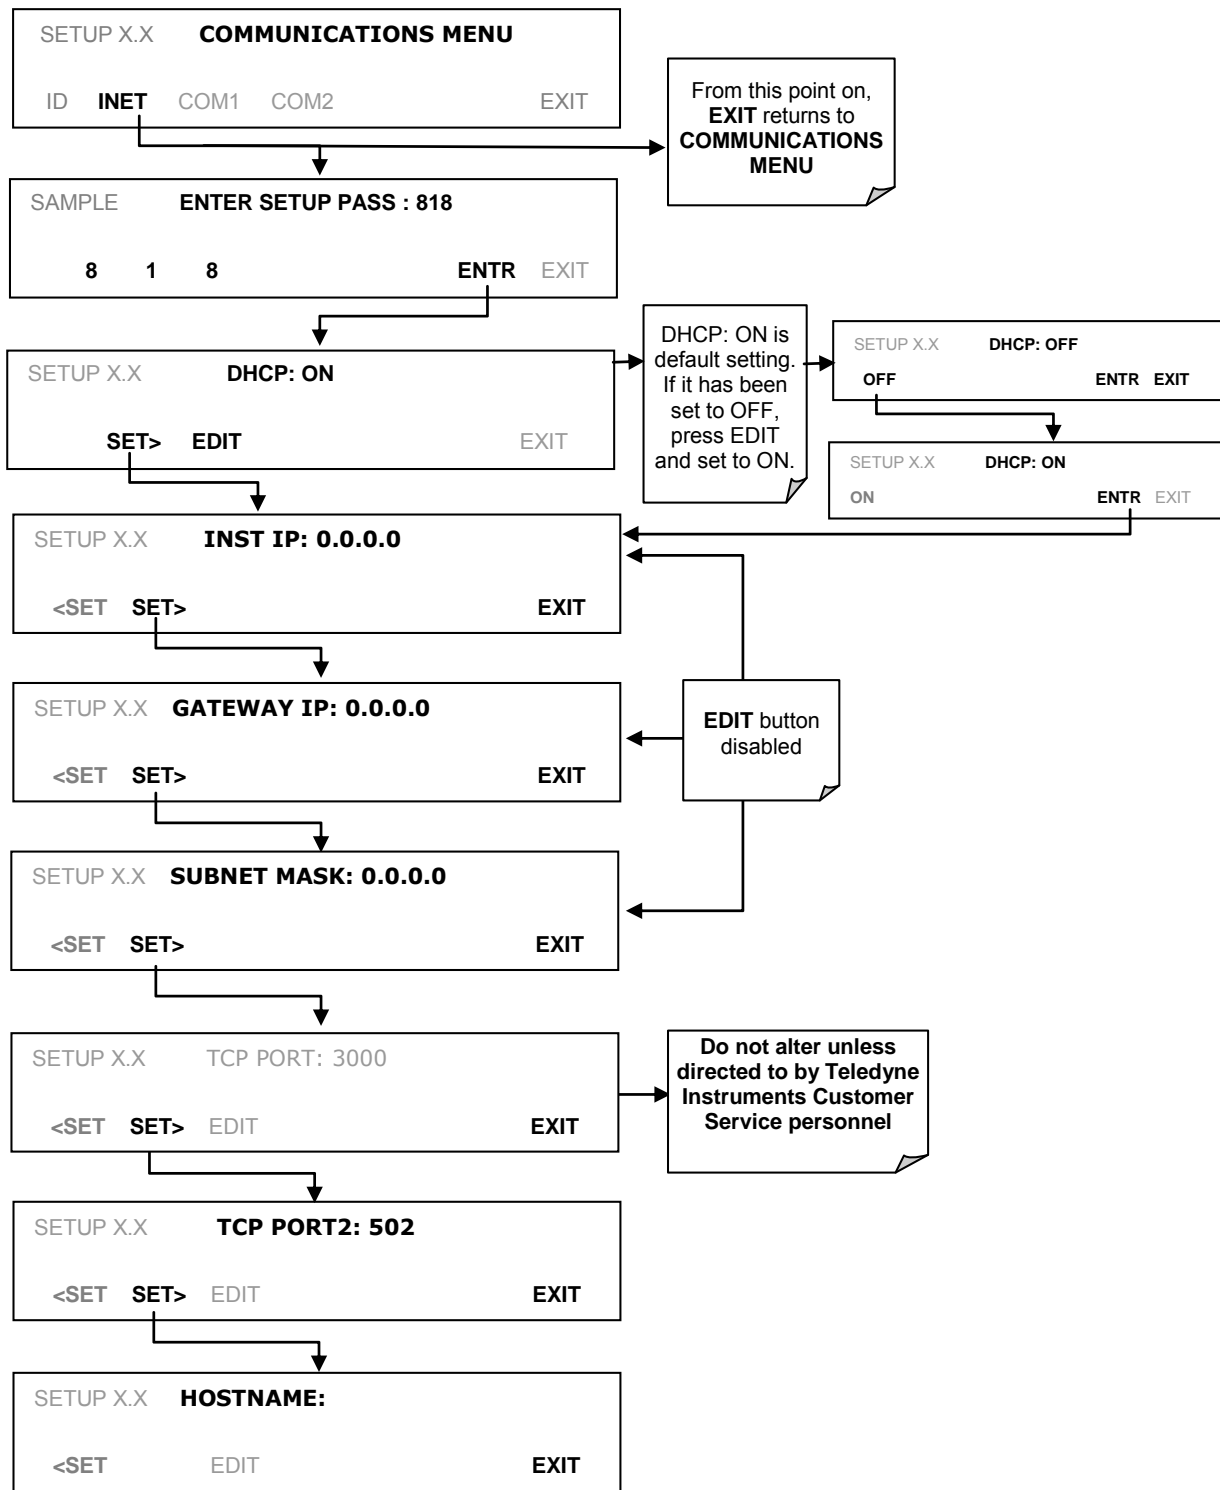

Figure 6-5. COMM – LAN / Internet Automatic Configuration (DHCP)
3. Enter the INET menu and follow the setup sequence as shown in Figure 6-5.
The **HOSTNAME** is the name by which the analyzer appears on your network. The initial default Hostname is blank. To assign or change this name (particularly if you have more than one T204 analyzer on your network, where each must have a different Hostname), enter the **SETUP>COMM>INET** menu and scroll to the **HOSTNAME** menu as in Figure 6-5; make the changes as shown in Figure 6-6: